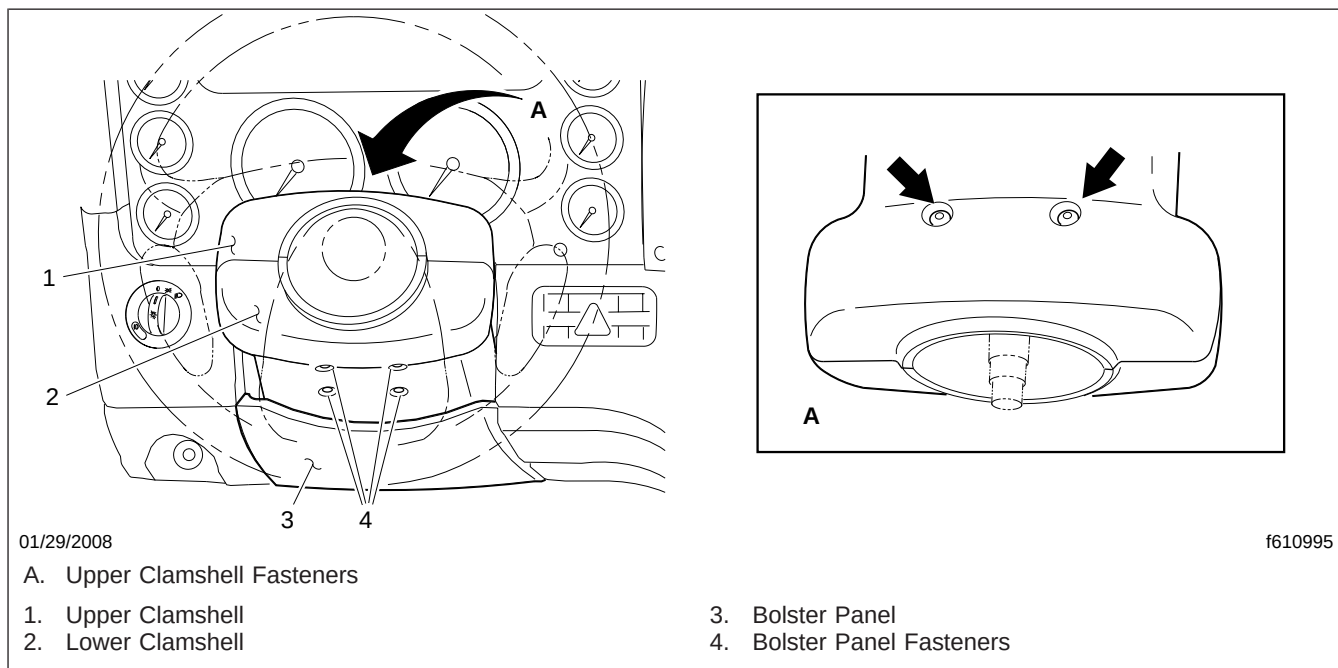

Fig. 4, Removing the Steering Column Trim Panels
5. Remove the steering column bolster panel, and clamshell. See Fig. 4.